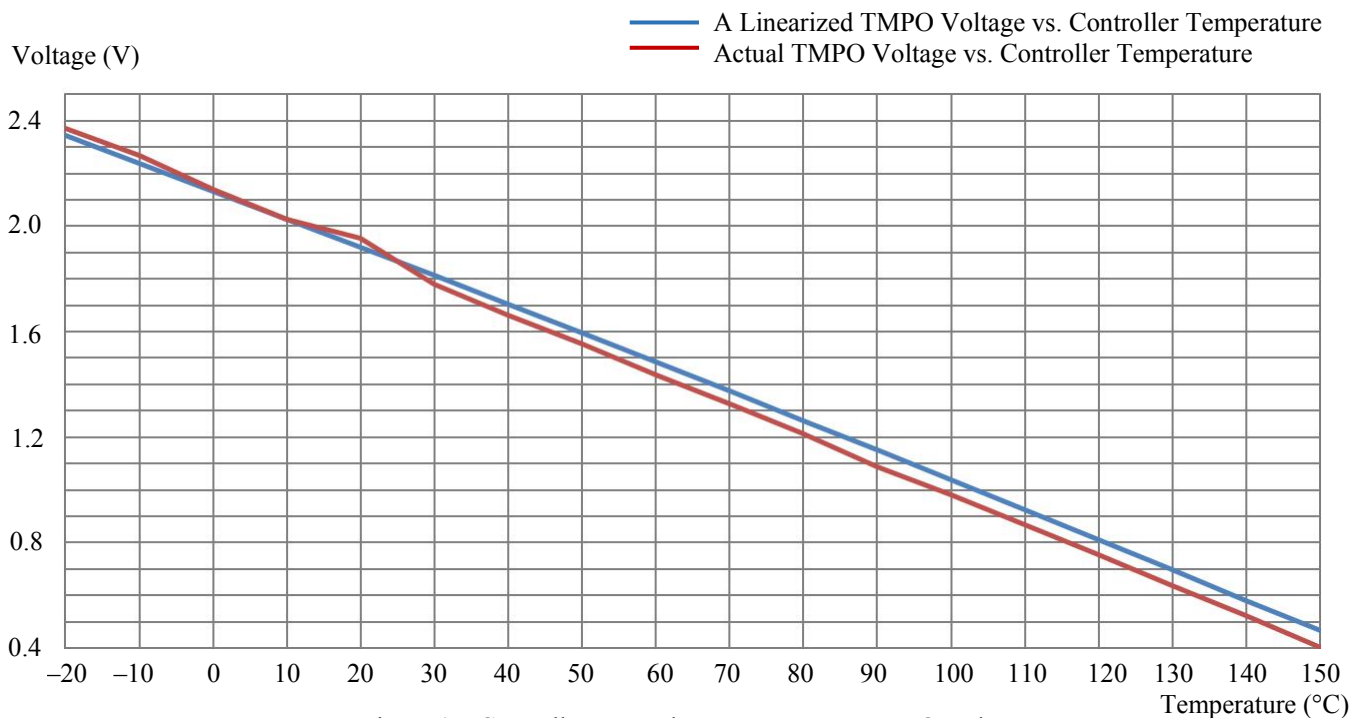

Figure 15. Controller Internal Temperature vs. TMPO Voltage
Within the most commonly used temperature range of between 0°C to 100°C , the maximum error occurs at about 1.5V, at which the temperature error between the calculated data by using the formula (1) and the approximated data obtained by using the linear equation (2) is about 0.4°C , with the linear data being a little lower. The curves of the 2 sets of the data are plotted in Figure 15.